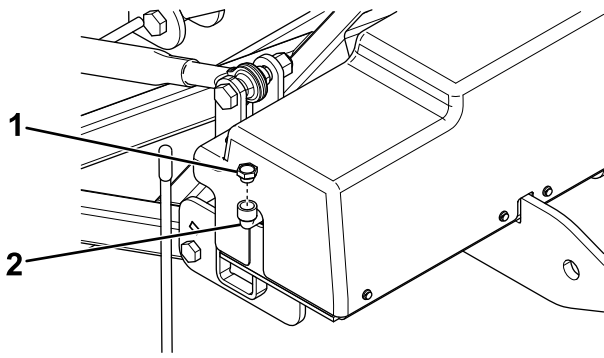

Figure 16
3. Remove the fill cap from the hydraulic reservoir on the side of the coupler assembly (**Figure 16**).